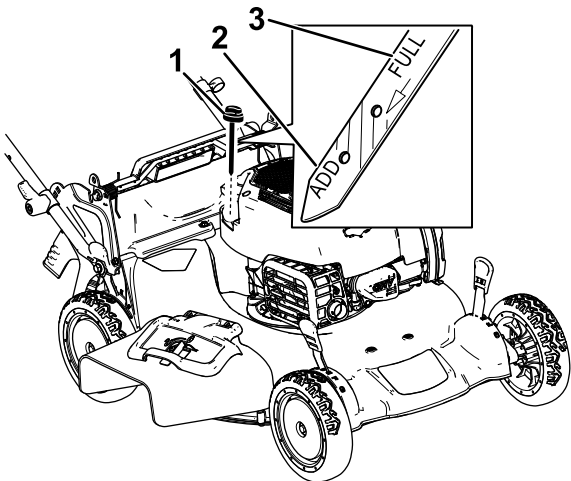

Figure 23
3. Remove the dipstick by rotating the cap counterclockwise and pulling it out (Figure 23).
10. Read the oil level on the dipstick (Figure 23).